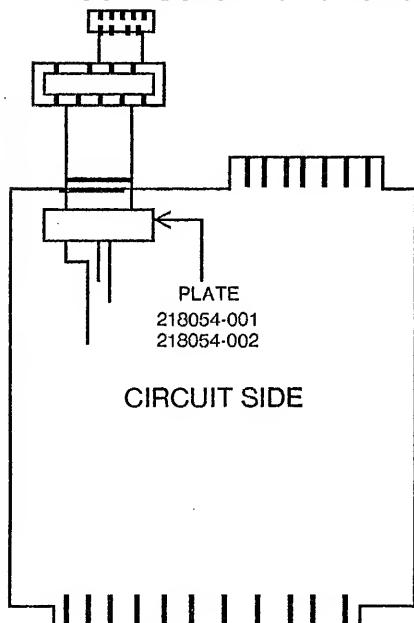
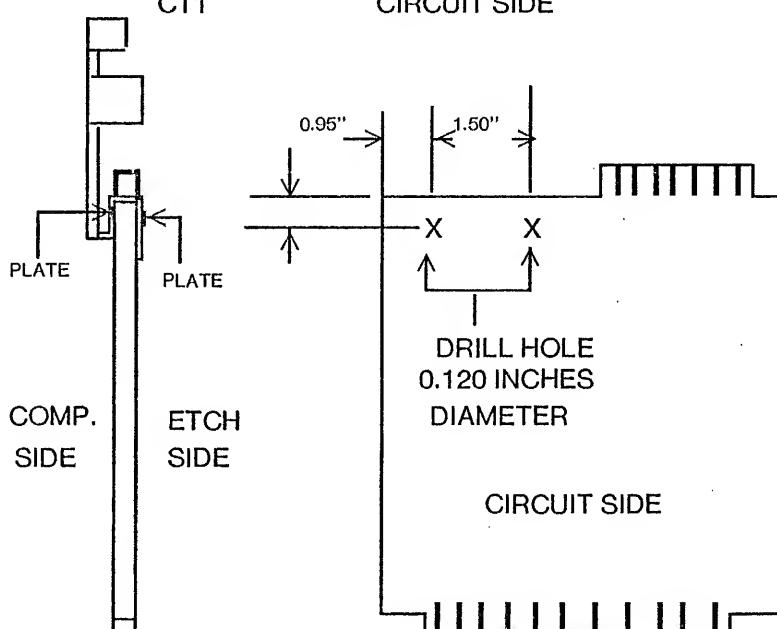

FIG. 1
FIG. 2.
6.0 MOUNT CABLE ASSEMBLY (2533) AND PLATE ASSEMBLY (218054-001) PER FIG. 1 AND FIG.2.